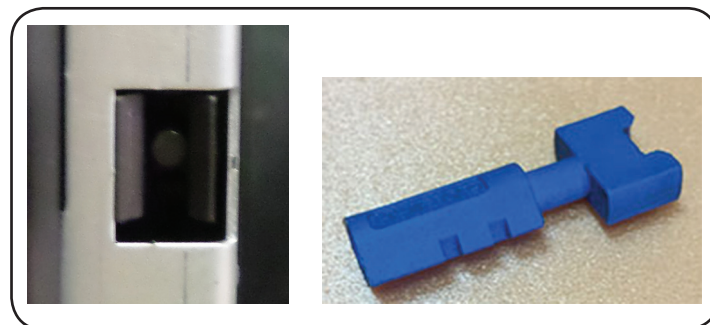

Fig.2
1. Insert the service key into the door trip (fig. 2) and turn through 90 deg. clockwise until fixation.